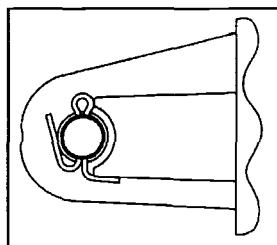

Figure 9
3. Insert the cotter pin into the hole in the pivot pin and bend per (Figure 9) to ensure the cotter pin cannot fall out and pivot pin cannot rotate.